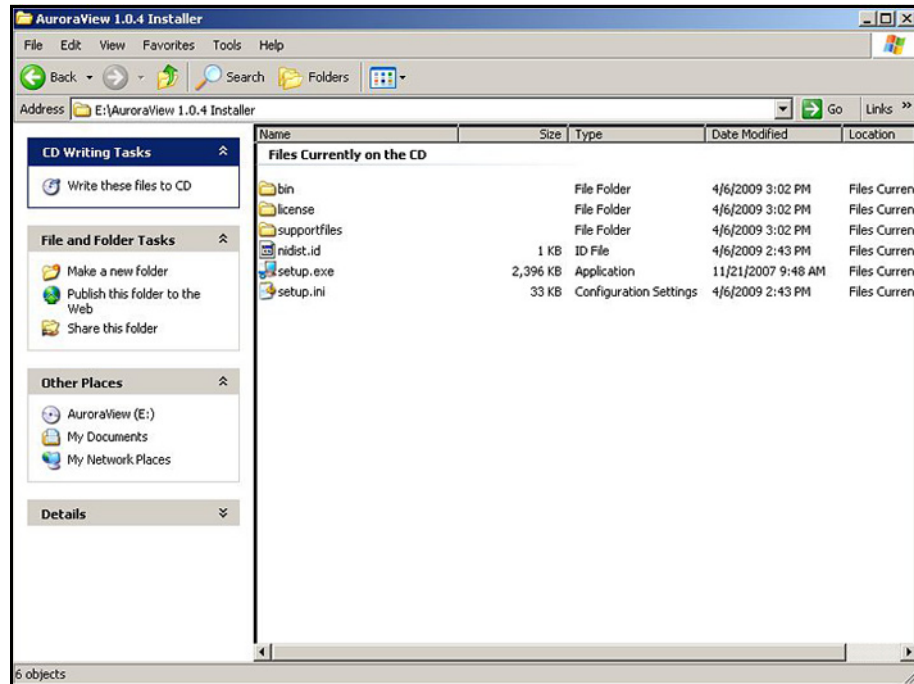

Figure 47: AuroraView Installer
3. Browse to the file named “*setup.exe*” in the root directory of the CD (see *Figure 47* below). Double-click the file to start the installation.